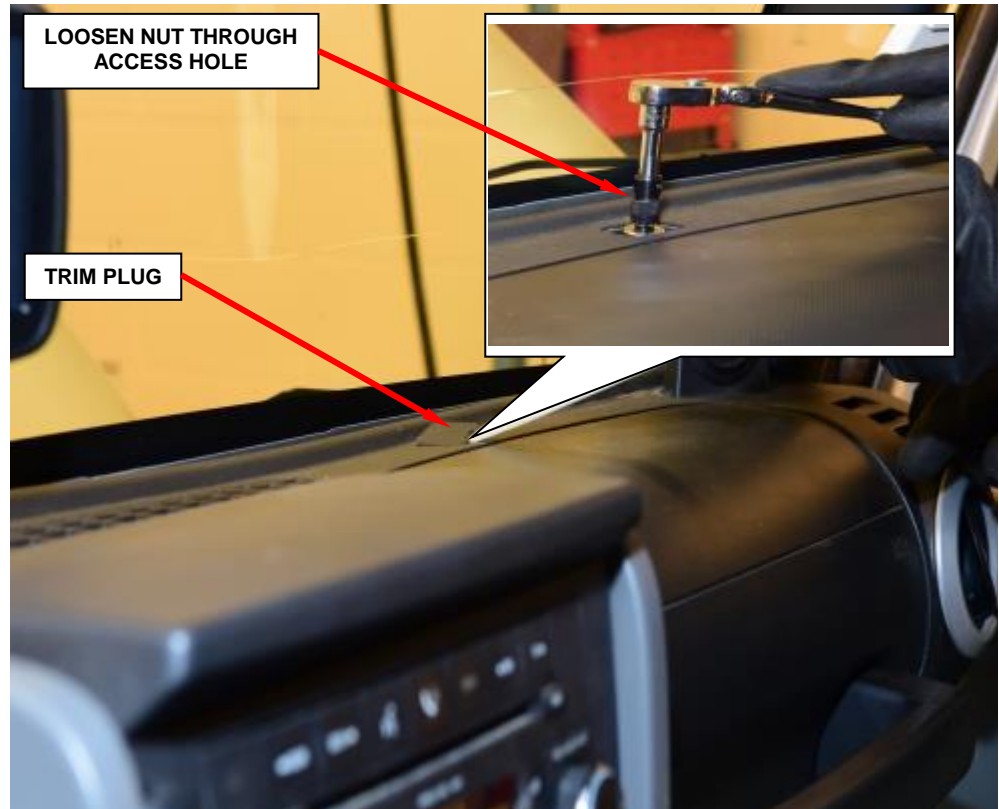

Figure 115 – Trim Plug Access Hole
2. Remove the trim plug from the access hole in the top of the instrument panel between the windshield and the forward edge of the passenger airbag door (Figure 115).
3. Working through the access hole, loosen the nut that secures the passenger airbag upper bracket and the instrument panel armature to the stud near the windshield fence line (Figure 115).